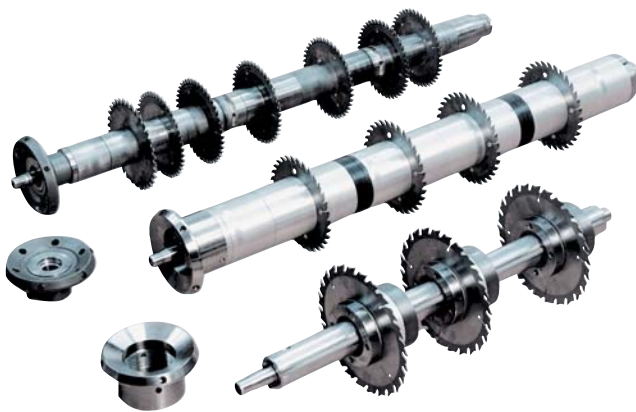

Fig. 16 Saw shaft systems
- Mechanically tensioned saw shafts of 100 mm in \varnothing (for all opening widths) or 75 mm in \varnothing (for opening widths up to 1500 mm) (Fig. 16, middle).
- Hydraulically tensioned shafts of 50 mm in \varnothing (for opening widths up to 1200 mm) or 60 mm in \varnothing (for opening widths up to 1500 mm) (Fig. 16, on top) reach the same rigidity by tensioning with a hydraulic nut despite their considerably smaller diameters. Advantage of these shafts: Possibility to handle thicker material.
- Saw shafts of 70 mm in \varnothing (for opening widths up to 1500 mm) or 100 mm in \varnothing (opening widths up to 3000 mm) using individually adjustable saw bushes (mechanical or hydraulic design, Fig. 16, bottom) are especially suitable where only a few saw blades are required, i.e. from a strip width of approx. 50 mm upwards. The manually adjustable saw bushes are fitted with one saw blade or hogger each.